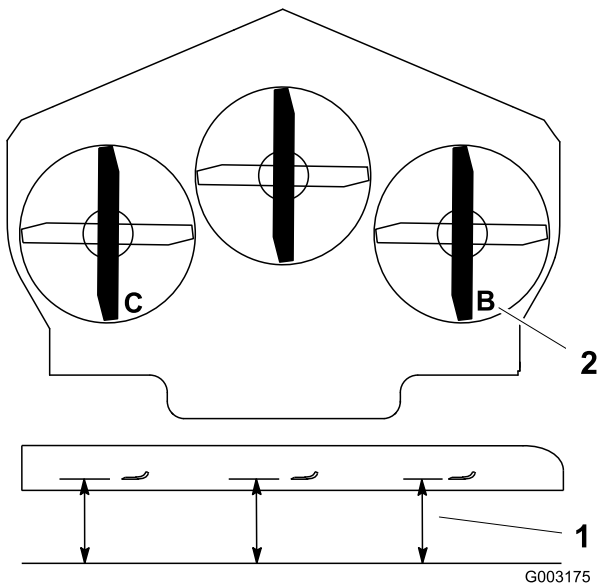

Figure 74
1. Position the right blade front-to-rear (Figure 74).
2. Measure the right blade at the **B** location, from a level surface to the cutting edge of the blade tip (Figure 74).
4. Position the left blade front-to-rear (Figure 74).
5. Measure the left blade at the **C** location (Figure 74), from a level surface to the cutting edge of the blade tip .